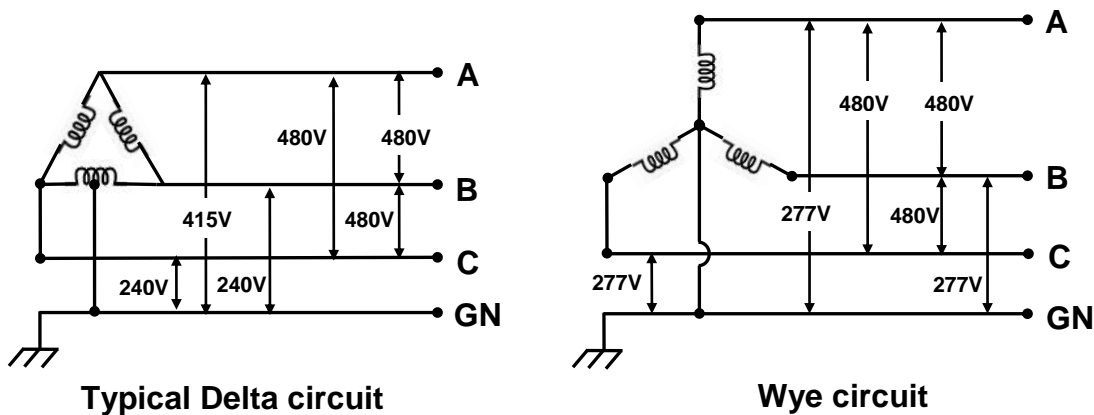

Figure 6: AC input wiring diagrams
1. PowerCharge™ XP chargers require a **balanced 400–480 VAC 3Ø, four-wire Wye or Delta electrical supply with a separate ground (Figure 6)**. The supply circuit wiring and disconnect should be rated with reference to Table 1.